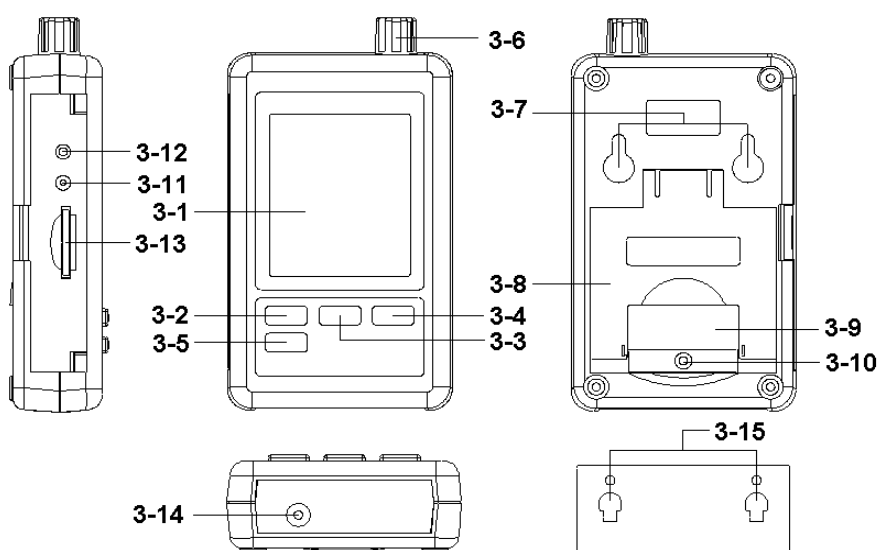

Fig. 1
- \* Loose the " Screw of the battery cover " ( 3-10, Fig. 1 ) and take away the " Battery Cover " ( 3-9, Fig. 1 ) from the meter.
- 2) The " Display " ( 3-1, Fig. 1 ) will show both the Humidity, Temperature and Barometer value that sensing from Humidity/Temp./Barometer sensor " ( 3-6, Fig. 1 ).
Prepare a " SD memory card " ( 1 GB to 16 GB, optional ), insert the SD card into the " SD card socket " ( 3-13, Fig. 1 ) with the correct direction exactly.
Press the " Logger button ( 3-2, Fig. 1 ) > 2 seconds continuously, until the Display show the indicator " DATALOGGER ", release the " Logger Button " ( 3-2, Fig.)
During execute the Datalogger function ( Display show the " Datalogger " indicator ), press the " Logger button " ( 3-2, Fig. 1 ) > 2 seconds continuously, until the Display indicator " datalogger" is disappeared, release the " Logger Button " will finish the Datalogger function.
Press " Time button " ( 3-3, Fig. 1 ) > 2 seconds continuously, the LCD display will present the time information of Year/Month/Date, Hour/Minute/Second and the sampling value.
1) After execute the Data Logger function, take away the SD card out from the " SD card socket " ( 3-13, Fig. 1 ).
Under do not execute the Datalogger function, press the " SET button " ( 3-5, Fig. 1 ) > 2 seconds continuously will enter the " Setting " mode., then release the " SET button ". Following press the " SET button " (3-5, Fig. 1 ) once a while in sequence to select the eight main function, the display will show: